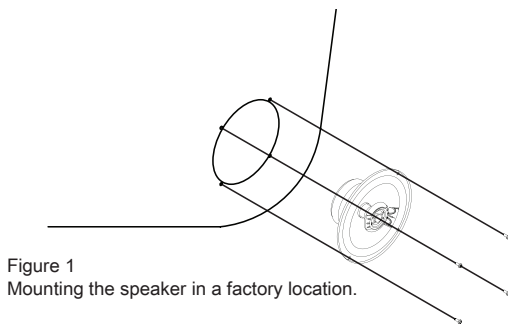

Figure 1
1. Many vehicles already have factory locations (Figure 1) to house the "DROP IN" feature of the RX Coaxial speakers. If no existing locations are available or are not used, check the desired location for adequate cutout area and any depth obstructions. Make sure to allow sufficient clearance for window tracks, structural braces, trunk lid springs, etc.
Phoenix Gold has provided a foam mounting gasket. When installing your new component speakers in a factory location make sure to use the foam mounting gasket as shown in figure 1. For reverse mounted speakers place the foam gasket in front of the speaker. This will ensure an air tight seal for your R speakers.